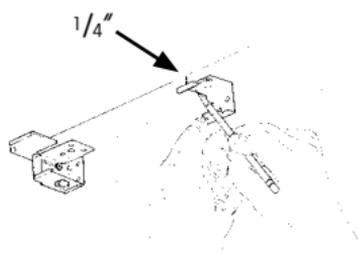

Figure B5
2. Recess the front edge of the center support bracket(s)  $\frac{1}{4}$ " from the front edge of the window casing. This recess will align the back of the center support bracket(s) with the back of the end brackets. This is crucial for proper blind installation. (See Figure B5)
3. Using a pencil, mark the window casing through the holes in the top of the center support bracket. For maximum stability, the pencil marks should be made in the two holes at the front of the bracket. (See Figure B5)